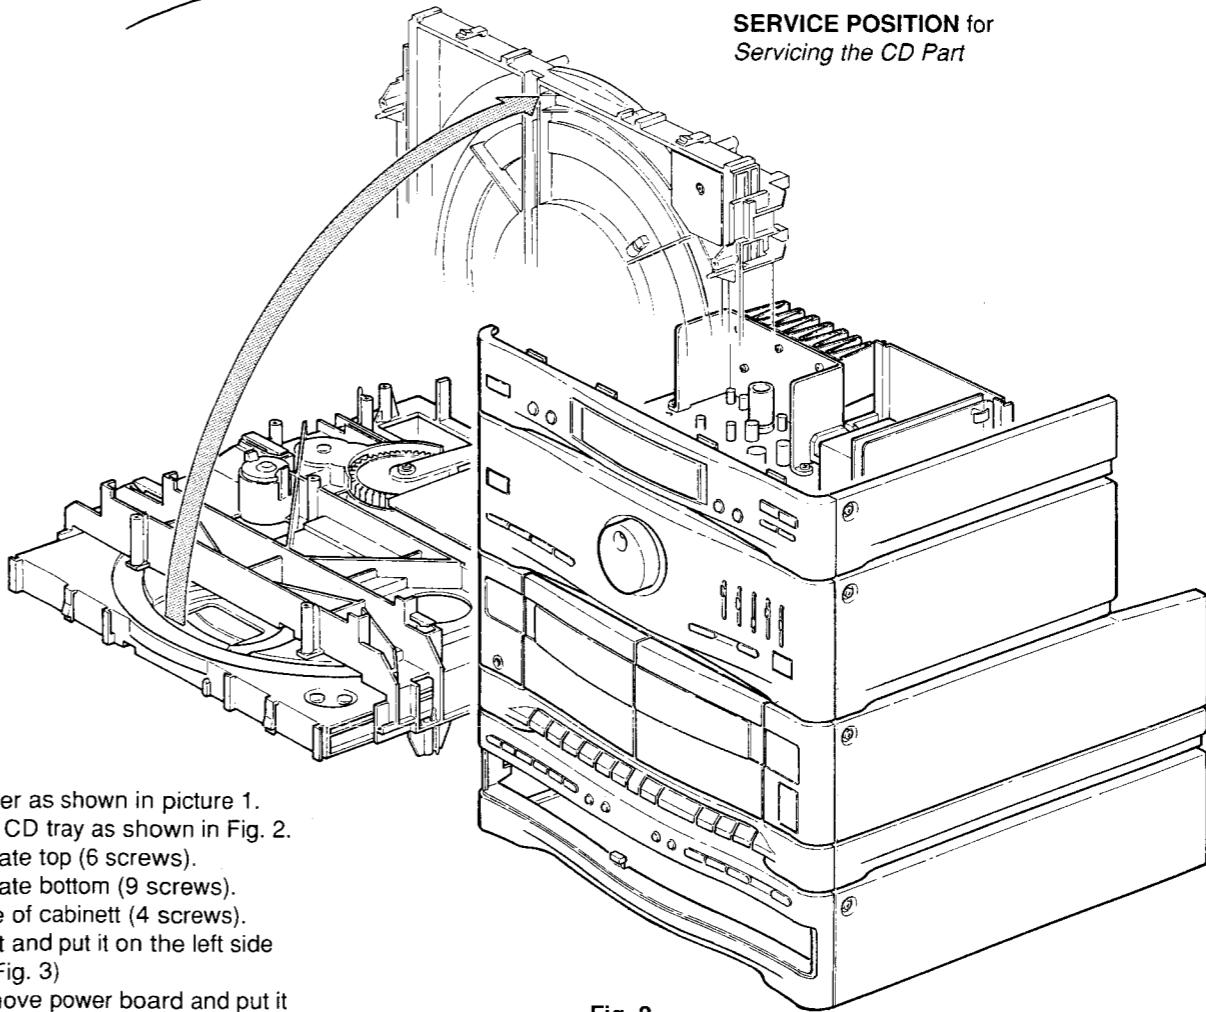

Fig. 2
- 2) Remove front of CD tray as shown in Fig. 2.